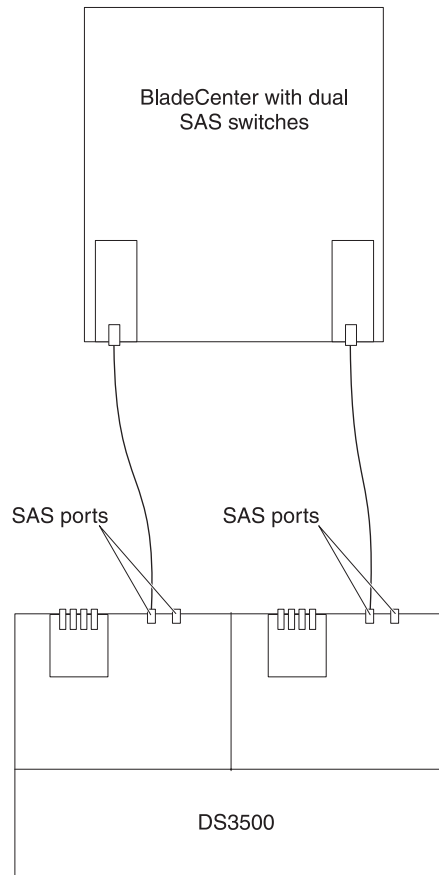

Figure 72. Example of a DS3500 that is connected to a BladeCenter unit
2. To create a redundant host connection, connect a SAS cable from a second SAS connectivity module to a host connector on the other controller in the DS3500. You can create a maximum of two redundant host connections in a dual-controller DS3500, one connection each from the blade center to the DS3500 controller host port as shown in Figure 72 on page 77.
Figure 72 on page 77 shows an example of a DS3500 that is connected to one BladeCenter unit.